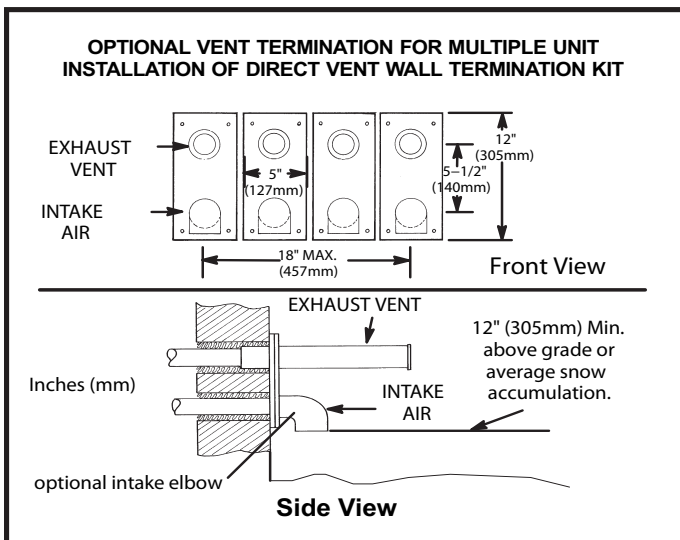

Figure 37
- A multiple furnace installation may use a group of up to four terminations assembled together horizontally, as shown in Figure 37.